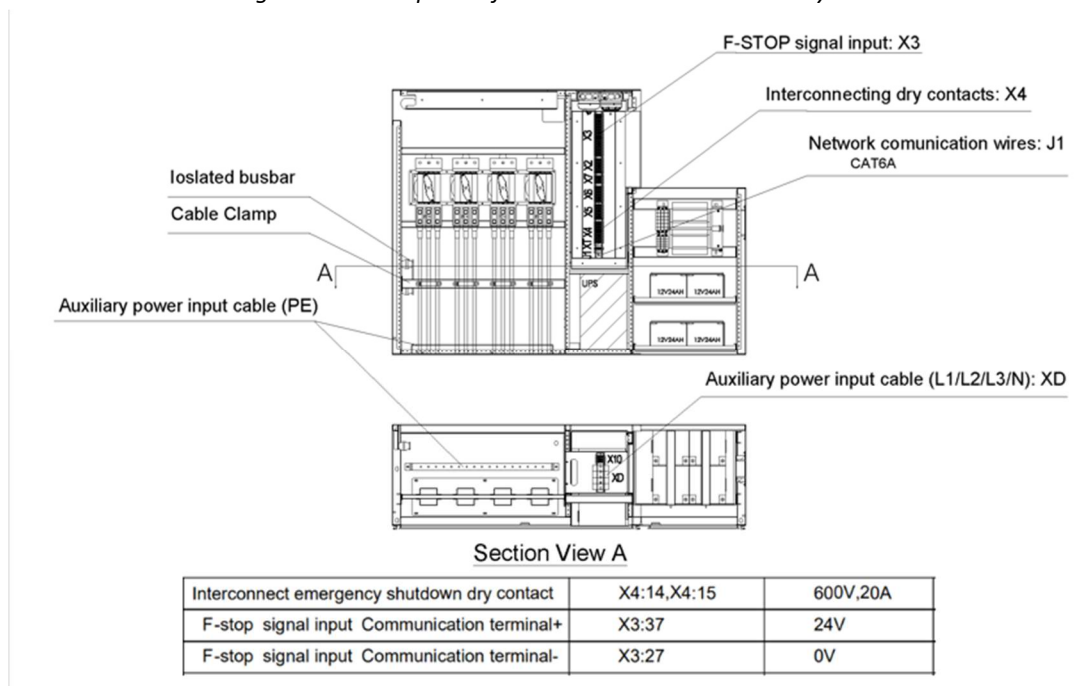

Figure 26: Description of busbar layout and dry contact
- ✓ Step 7: Identify location of SolBank3.0 series signal wire supply terminations, as shown in Figure 26.